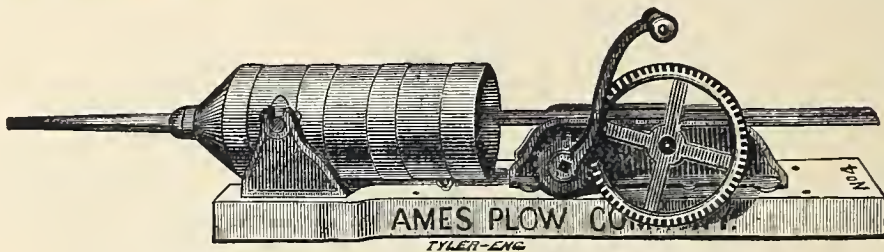

Fig. 473.—Sausage-Stuffer, No. 4, Geared.
**Sausage-Stuffer, No. 4,** represented by Fig. 473, a large butchers' machine. is geared, and does the work rapidly, but is easily operated. This is the size generally used by butchers.